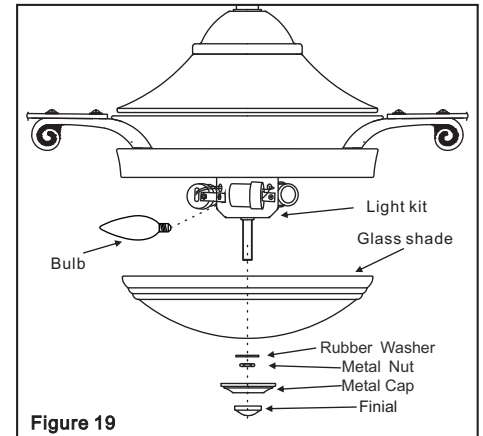

Figure 19
5. Place the 3 bulbs (60 Watt, included) into the light kit. (Figure 19)
6. Remove the rubber washer, metal nut, metal cap and finial from the light kit assembly. Place glass shade over the light kit stem, secure with the rubber washer, metal nut, metal cap and finial previously removed. Do not over tighten. (Figure 19)